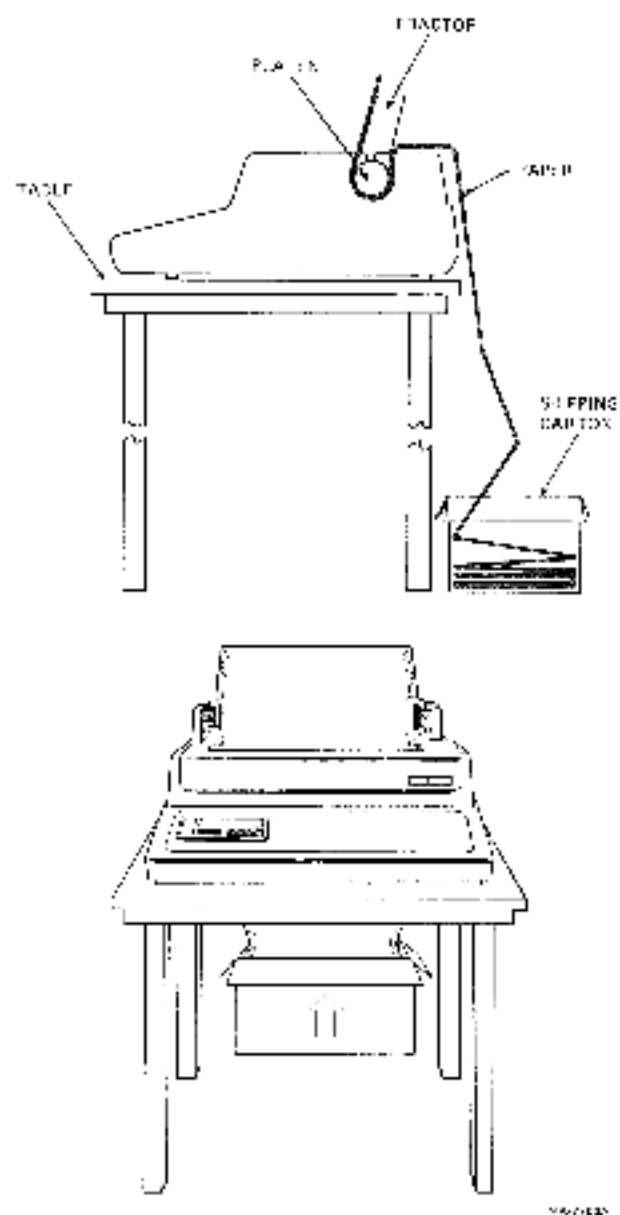

Figure 2-8 Tractor Feed Paper Path
5. If you do not use the printer stand option, position the printer as shown in Figure 2-8. Place the back edge of the printer parallel to, and slightly over, the edge of the table.
- b. If you do not use the printer stand, place the paper/forms on the floor behind the table (Figure 2-8). If the container top is removed, leave the paper in the shipping container.
- b. If you are not using the printer stand, feed the paper through the paper slot behind the platen. Rotate the paper advance knob clockwise until the top edge of the paper extends above the tractors (Figure 2-8).